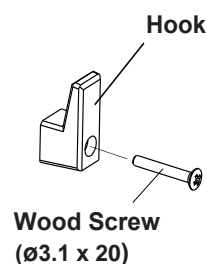

Fig.3-25 Installation of Hook for Hand exposure Switch
6. Place the hook on the wall and attach it with the wood screw (ø3.1 x 20mm). (**Fig.3-25**)